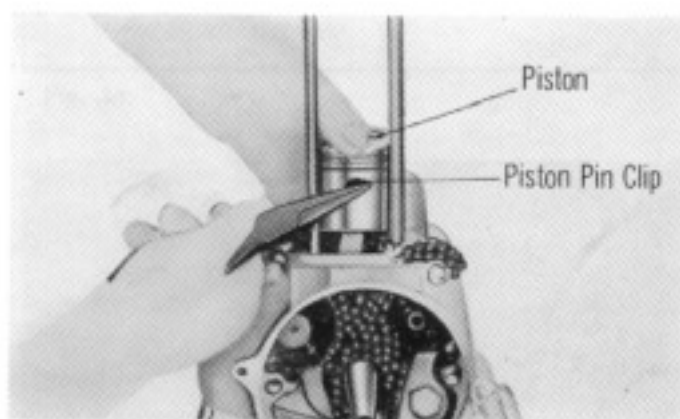

Fig. 32
1. The piston is disassembled from the connecting rod by first removing the piston pin clip and then the piston pin (Fig. 32).